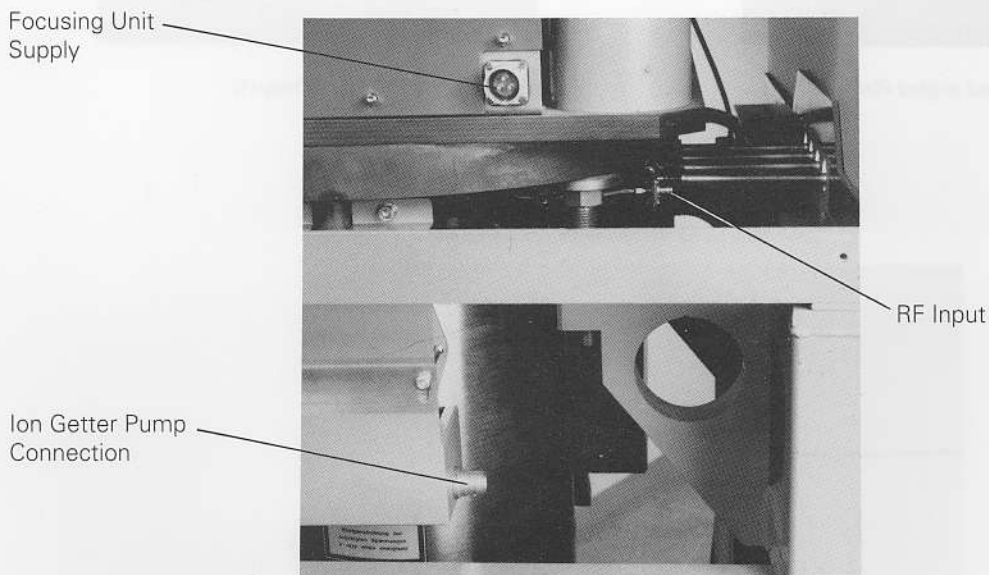

Fig. 51. Focusing Supply, Ion Getter Pump and RF Input Connectors
- (c) Focusing unit supply (Fig. 51), connector type Socapex SLEM 23C. Wiring details: